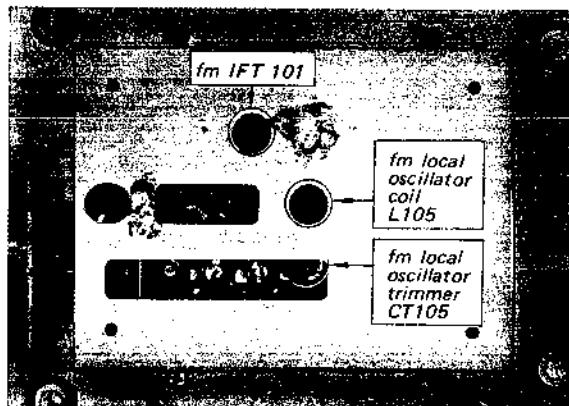

Fig. 3-3 Parts location
3. Precisely tune the set to the SSG's carrier frequency then turn the core of transformer IFT101 and primary side of discriminator transformer IFT301 (bottom core) (see Figs. 3-3 and 3-6) with the alignment tool to obtain maximum output.
2. Check the dial scale for a calibration accuracy of ± 100 kHz from the carrier frequency of the station. If the dial-accuracy deviation exceeds this limit, turn the local-oscillator coil L105 slightly as shown in Fig. 3-3 until optimum dial calibration is obtained.
3. Tune the receiver to the highest-frequency station in your locality. If the dial-calibration error is excessive, adjust local-oscillator trimmer CT105 (see Fig. 3-3) to obtain maximum calibration accuracy.